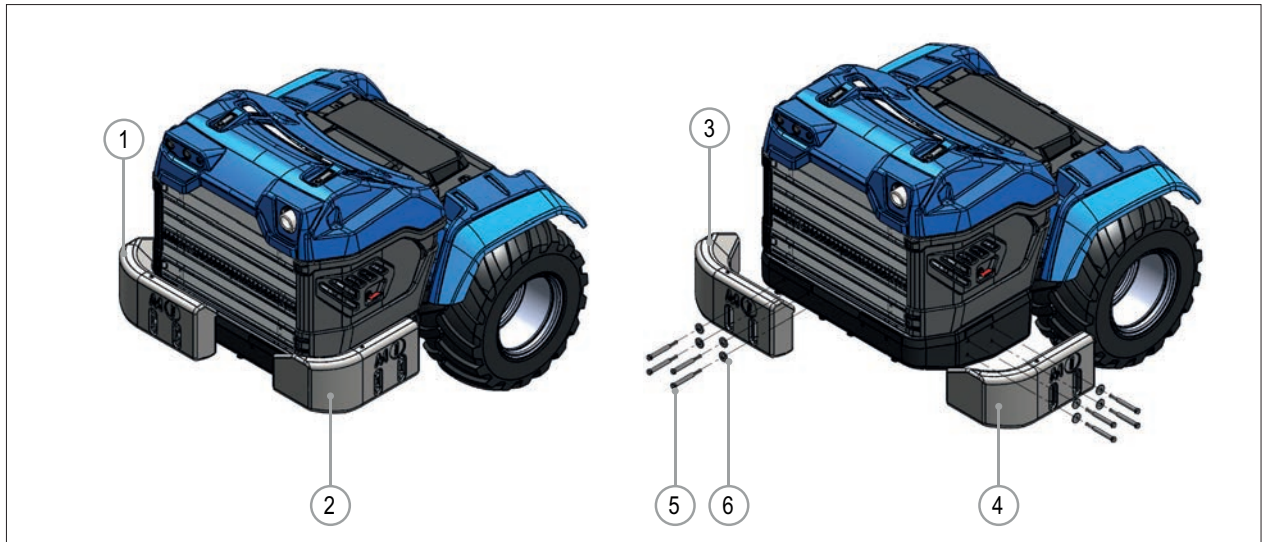

FIG. 56
- 2) Using a lifting device, position one of the backweights (FIG. 56 - Ref. 1) at the rear bumper of the machine.
- 3) Secure the backweight to the bumper using the bolts and washers (FIG. 56 - Ref. 3 and Ref. 4).
- 4) Repeat the procedure for the second half of the backweights (FIG. 56 - Ref. 2).